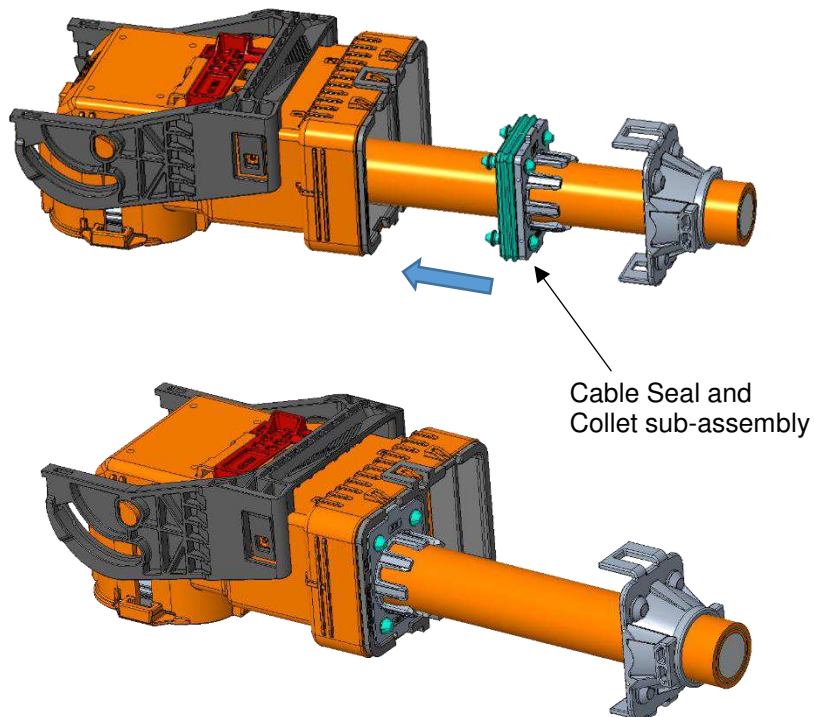

Figure 11: Cable Seal – Collet sub-assembly, Assembly
10. Slide the cable seal-collet sub-assembly forward on the cable and into the plug sub-assembly as shown in Figure 11.